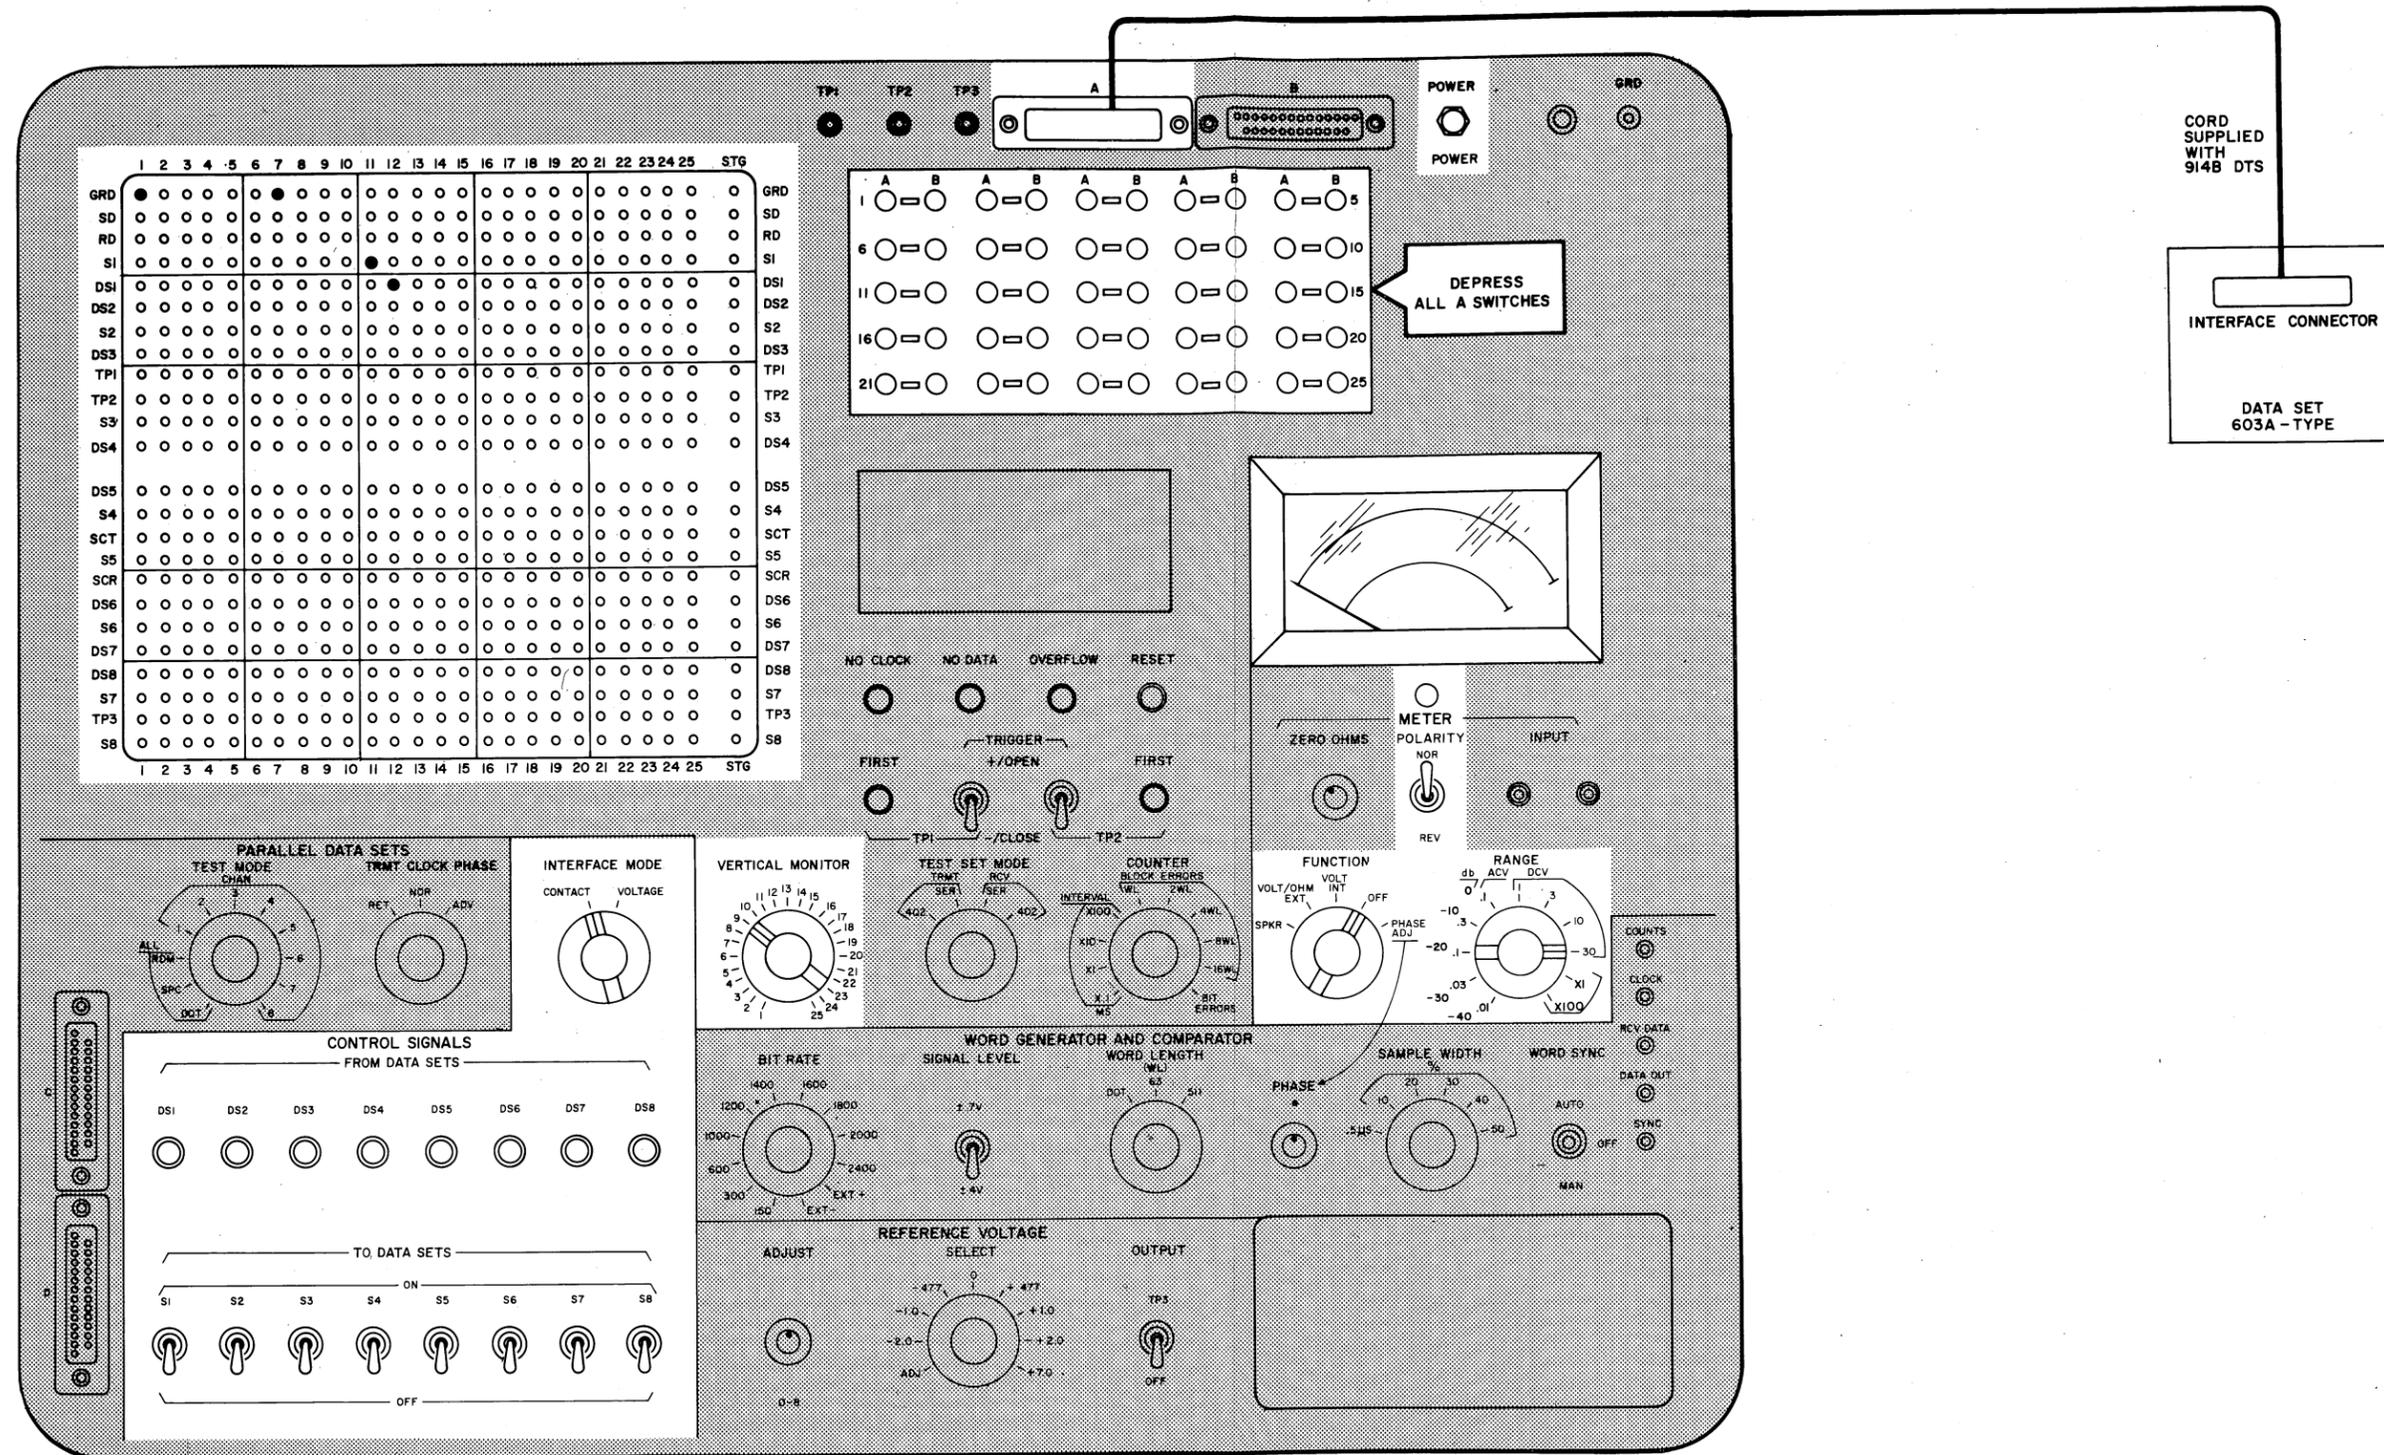

Fig. 7—Test Connection Diagram
**3.07** Figure 7 is a test connection diagram showing the equipment set up to test Data Set 603A-type using the 914B DTS.